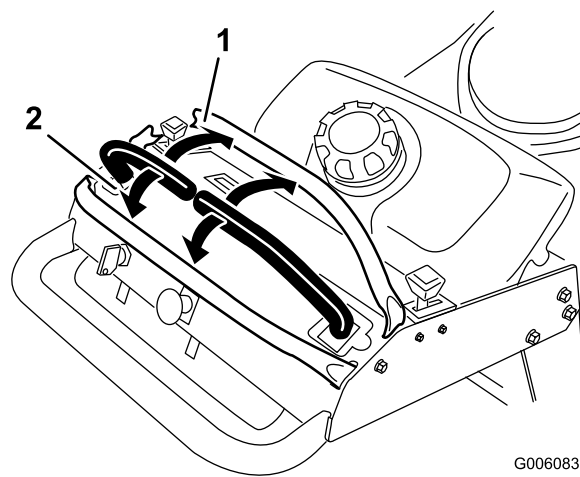

Figure 9
- To go forward, slowly push the motion control levers forward (Figure 9).
To go straight, apply equal pressure to both motion control levers (Figure 9).
To turn, move the motion control lever toward neutral in the direction you want to turn (Figure 9).
- To go backward, slowly pull the motion control levers rearward (Figure 9).
To turn, release pressure on the motion control lever toward the direction you want to turn (Figure 9).